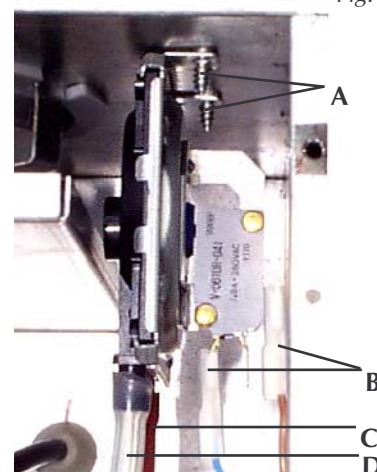

Fig. 27
7.06 Air pressure switch (fig. 27)